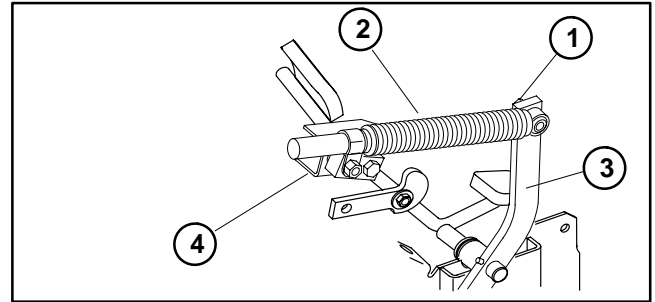

Figure 27
Traction (Electric) Clutch (Fig. 27 through 31)
4. Remove the flanged nut securing the dampener to the traction arm. Remove nut, lock washer and flat washer securing the dampener to the U-bracket support. Remove the dampener (Fig 27).
11. Attach the dampener to the traction pedal and U-bracket support (Fig. 27). Adjust the traction pedal (see Adjustments section of Chapter 4 – Hydraulic System).